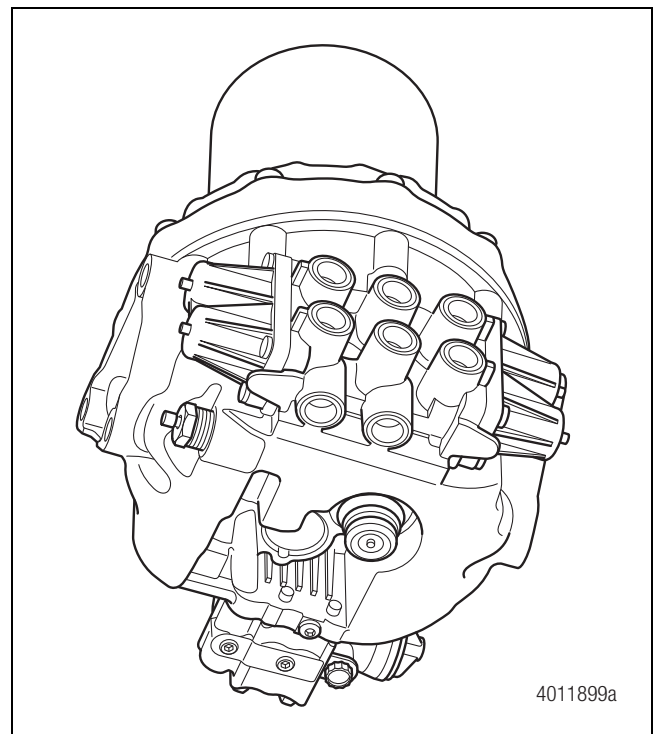

Figure 1.25
**Pressure Protection Elements:** Ports that are located directly on the air dryer. The eight ports are directly connected to the primary, secondary and any auxiliary air tanks. The function of the pressure protection elements is to protect the air tanks from a loss of pressure in the air system. These pressure protection elements are not serviceable. Figure 1.25.